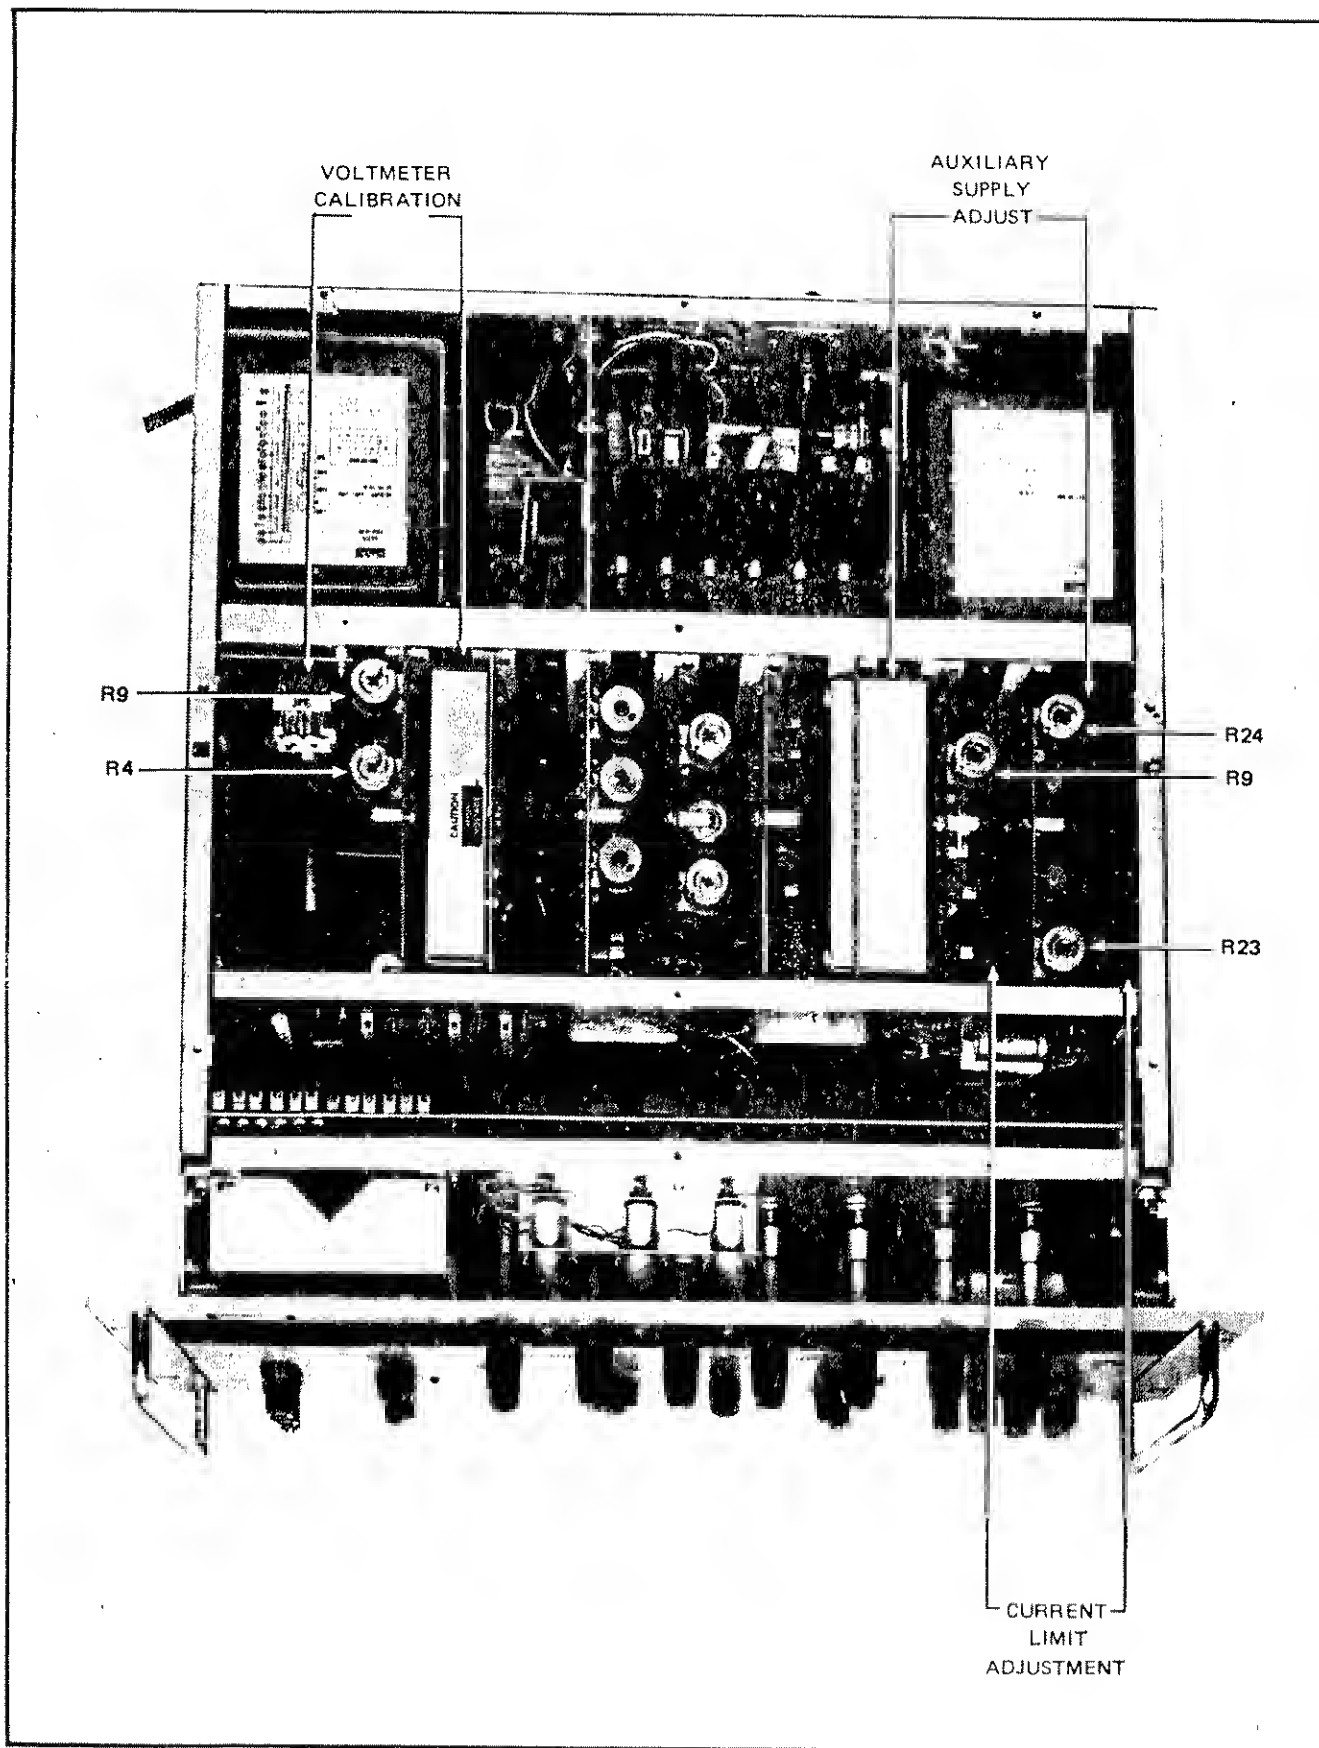

Figure 4-6. LOCATION OF ADJUSTMENTS
- c. Refer to Figure 4-6 and adjust R4 until the period of the square wave is 11.9 milliseconds.
- c. Refer to Figure 4-6 and adjust R9 for a full-scale meter deflection $(1.0) \pm 1/2$ a small division.
- b. Referring to Figure 4-6, adjust R9 until the Model 895A indicates 25 volts, ± 10 millivolts.
- c. Referring to Figure 4-6, adjust R23 for a 60 milliampere indication on the external meter.
- d. Rotate the CURRENT LIMIT control maximum counter-clockwise. Referring to Figure 4-6, adjust R24 for a 0.5 milliampere indication on the external meter.